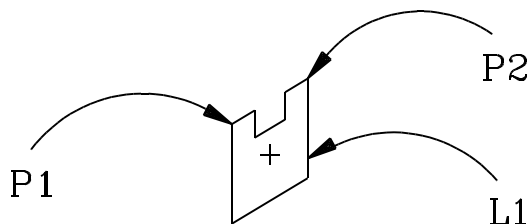

Figure 3
17. Click anywhere below the midpoint of the line L1. (See Figure 3.)